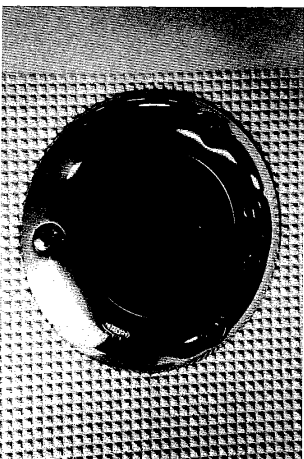

Figure 13
5. A special key to unlock the fuel cap is given to you. Insert the key in the slot in the fuel cap. The fuel cap for the fuel tank is midship in the covering board on the port side of the boat. See figure 13.